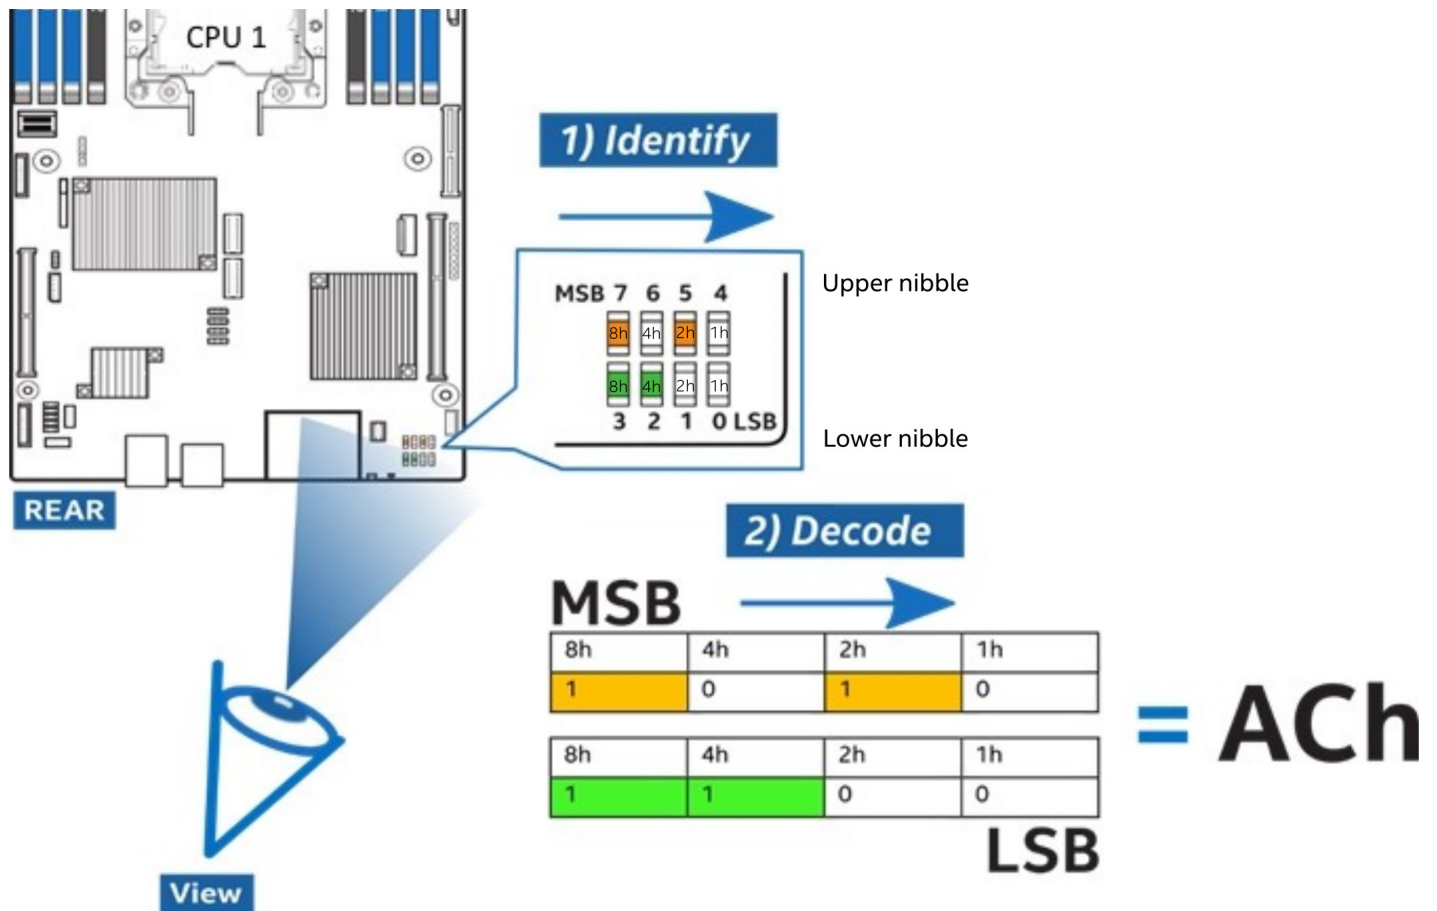

Figure 88. Correct Order Reading POST Diagnostic Codes
**NOTE:** When facing the back of the system, all POST Diagnostic codes are read from left to right starting from MSB to LSB in given numerical order (7-6-5-4-3-2-1-0) as show on Figure 88. Failing to follow this instruction will result in decoding the LEDs incorrectly.